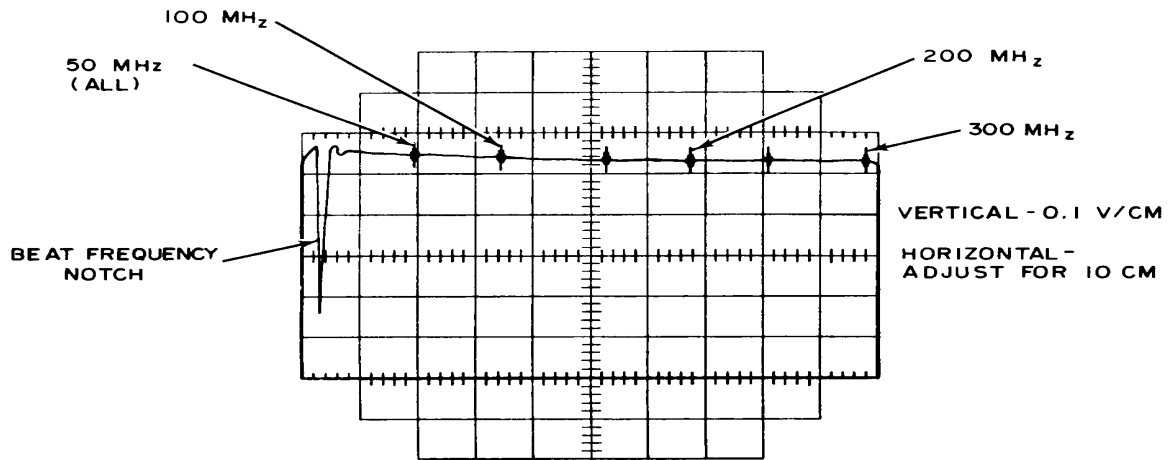

Figure 8. Frequency response at maximum sweep width (VHF).
(27) Note the extent of deviation between this FREQUENCY dial setting and the 0.5 MHz mark and adjust the FREQUENCY dial to the mid point of this deviation.
(28) Slowly readjust C515 to reposition the slope of the beat frequency notch near the center of the oscilloscope trace.
(29) Set the SWEEP WIDTH control to the WIDE position and rotate the SWEEP WIDTH control clockwise.
(30) Adjust the FREQUENCY dial to position the beat frequency notch at the extreme left of the horizontal trace as shown in figure 8.
(31) Simultaneously adjust the FREQUENCY dial to maintain the beat frequency notch at this position and adjust R563 (fig. 1) (VHF SW LIMIT) to obtain a 300-MHz bandwidth as shown in figure 8.